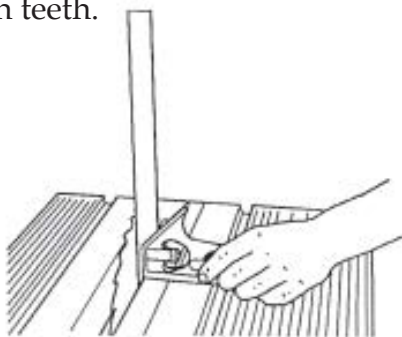

Figure B-64
26. Place the combination square against both the saw blade and worktable, as seen in Figure B-64. Make sure the square's blade does **not** touch a saw tooth and **does** rest in a gullet between teeth.